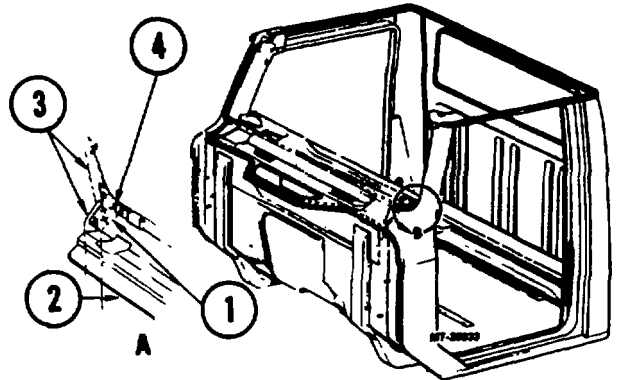

Fig. 44 Windshield Side Outer Panel to Cowl Rear Panel and Bracket Spot Welds
8. Drill out six spot welds and separate windshield side outer panel from cowl rear panel and bracket (Fig. 44).